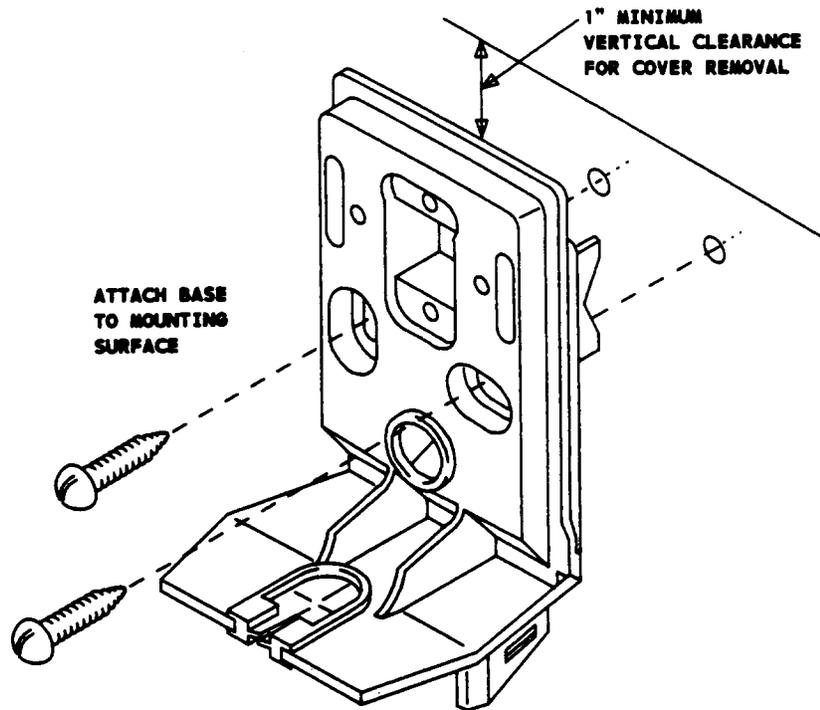

Figure 5. 401 NIU — Mounting Base onto Wall
- (2) Mount the base (Figure 5). Ensure that a minimum 1-inch (2.5 cm) clearance is left between the top of the base and any obstruction.